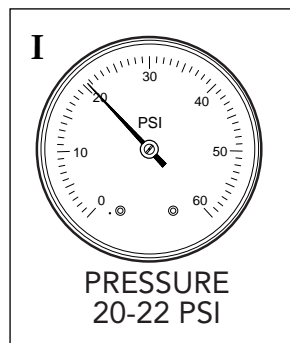

Fig. 18
4. Refer to Fig.18 below. Check the rinse spray arm nozzles. If necessary, remove the end plugs and clean the nozzles with a small paper clip to remove debris. Flush the arms thoroughly and replace the end plugs.